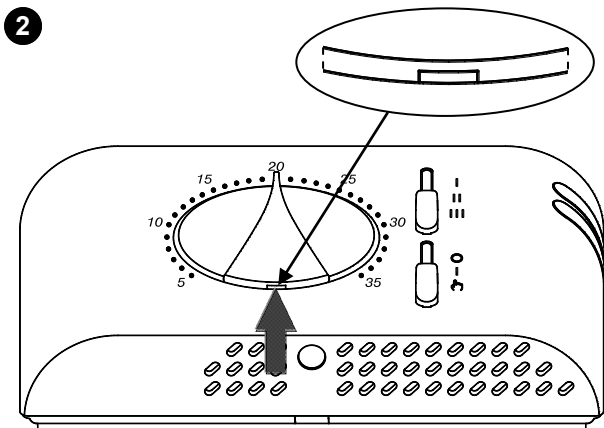

Fig. 3 - Abb. 3
- 2 Move both sliders all the way down and position the knob at 20°C; lift the knob using a screwdriver as shown by the arrow in Fig. 3, being careful not to scratch the cover.